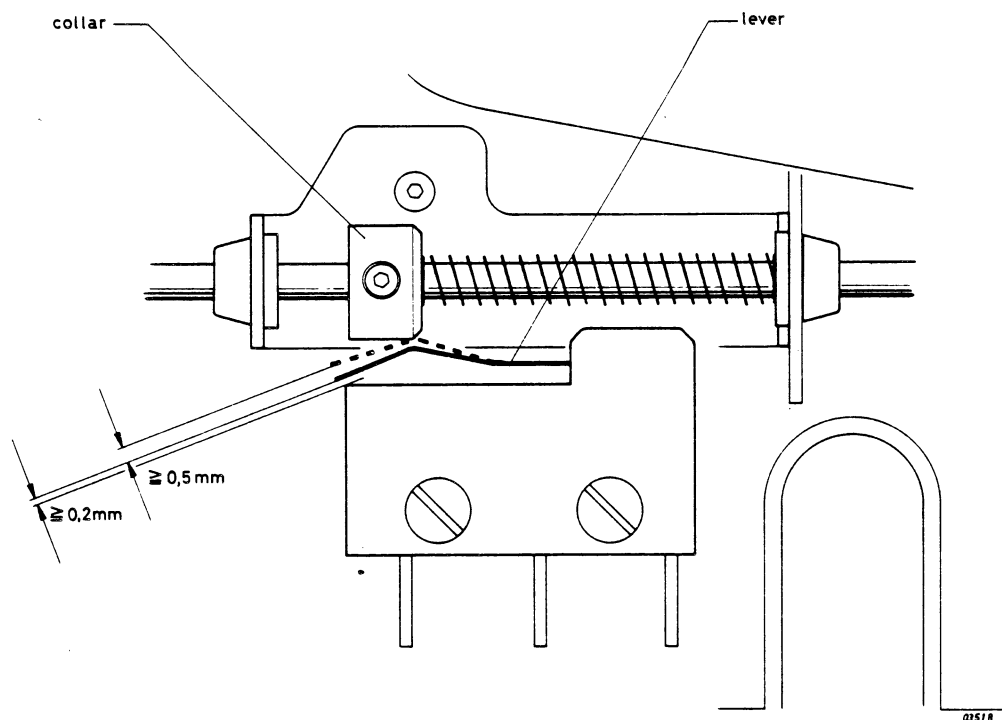

Figure 7.8 DOOR CLOSED SWITCH CHECK
7.2.8 DOOR CLOSED SWITCH CHECK (FIGURE 7.8)